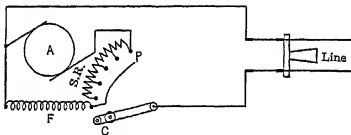

FIG. 216. Diagram of starting resistance for shunt motor:
Fig. 216 is a simple diagram of the starting resistance used with a shunt motor. When the line switch is thrown and *C* is swung to the first point, it merely puts the shunt field
**Prob. 10-9.** In Fig. 216 the starting resistance *SR* is 4.7 ohms; the armature has 0.8 ohm. What current does the armature take when starting on 110 volts?
**Prob. 11-9.** The field coils *F*, Fig. 216, have a resistance of 220 ohms. What current do the field coils take when on 110 volts?
- (1) Nearly constant speed at all loads.
- (2) Possibility of controlling the speed by field resistance and armature resistance.